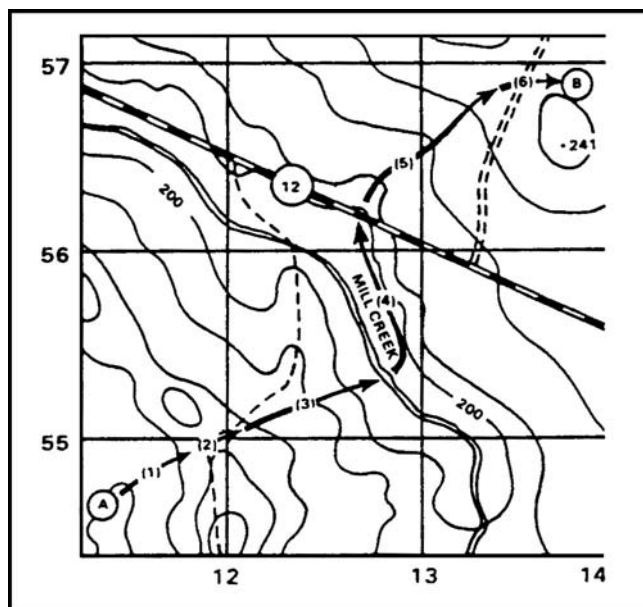
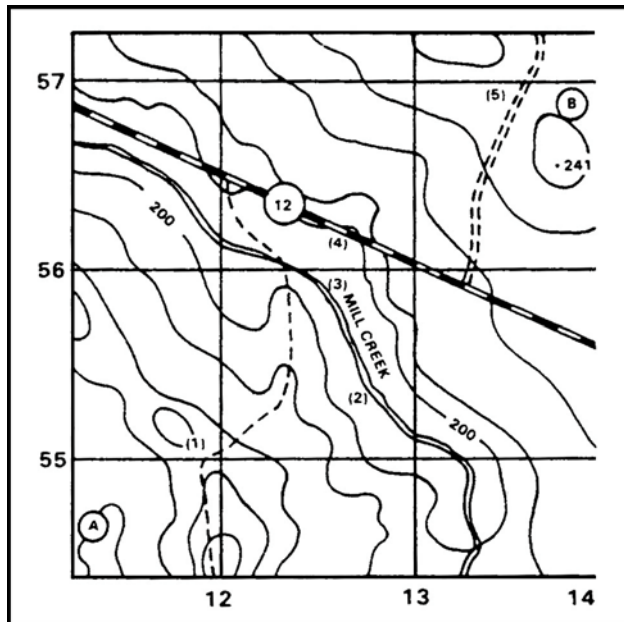

Figure 3. Route of travel.
Figure 4. Checkpoints.
- (2) Ease of movement. Always pick the easiest route that the tactical situation will allow. However, you achieve surprise by doing the unexpected. A difficult route increases your chance of getting lost. A difficult route may be noisy and may tire you out before you get to your objective.
- (3) Boundaries. It is almost impossible to travel in a straight line, with or without a compass. Pick an axis or corridor to travel along. Pick boundaries you will be able to spot or feel. Hardtop roads, streams, high grounds, and railroads all make good boundaries. If you start to wander too far off course, you will know it.
- d. You decide the route shown in Figure 3 offers you easy movement. You check your axis up the valley (1); across the ridge at the saddle (2); cross the stream, turning left and keep the stream on the left, high ground on the right (4); to the third valley (5); to the saddle, then on the objective (6).
- f. Referring to Figure 3, pick your checkpoints.
- (1) The saddle, you can use Hill 241 to line on up the right valley, which you will follow to:
- (2) The stream, which you will move alongside it until:
- (3) The bend in the stream, when you turn right to:
- (4) The road in the valley (the ridge crossing on the road on the 12 grid line will serve as a limiting feature), then up to:
- (5) The far saddle, and right to your objective (B).
- i. Referring to Figure 4, check your distances:
- (1) 500 meters to the saddle (1).
- (2) 800 meters to the stream (2).
- (3) 500 meters to the bend in the stream (3).
- (4) 300 meters to the road (4).
- (5) 1,000 meters to the far saddle (5).